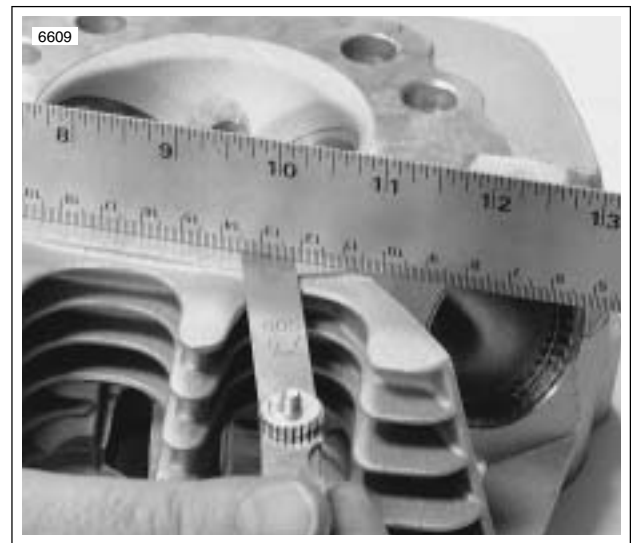

Figure 3-66. Checking Gasket Surface
4. See Figure 3-66. Check head gasket surface on head for flatness. Machine or replace any head which exceeds SERVICE WEAR LIMIT of 0.006 in. (0.152 mm).